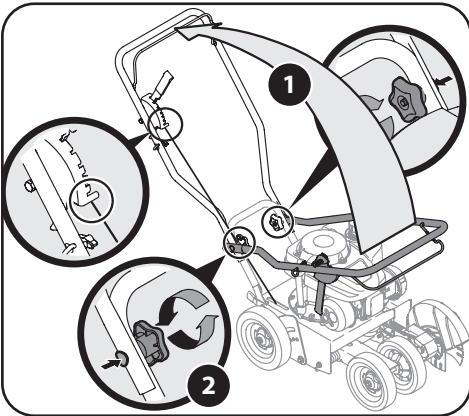

Figure 2-1
1. Pivot the upper handle upward until it snaps into place. See 1 in Figure 2-1.
2. Tighten the star knobs (a), which are located on both the left and right sides of the handle. See 2 in Figure 2-1.